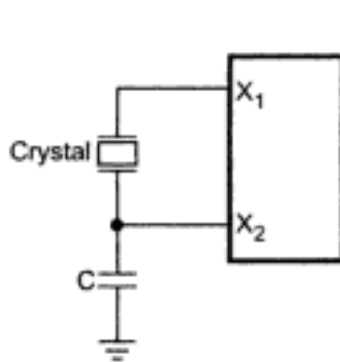

Fig. 1.8 Crystal clock circuit
**Crystal Oscillator Circuit :** Fig. 1.8 shows the crystal oscillator circuit. It is the most stable circuit. The 20 pF capacitor in the circuit is connected to assure oscillator start-up at the correct frequency.